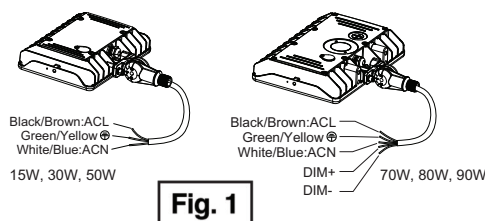

Fig. 1
- 2.) Connect the input wires coming out of the mounting bracket to the power supply wires (**Fig. 1**).